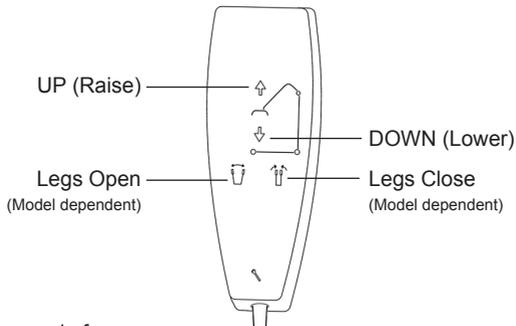

Fig. 5
- Push the UP and DOWN buttons on the hand control and confirm the boom will raise and lower accordingly (Fig. 5).